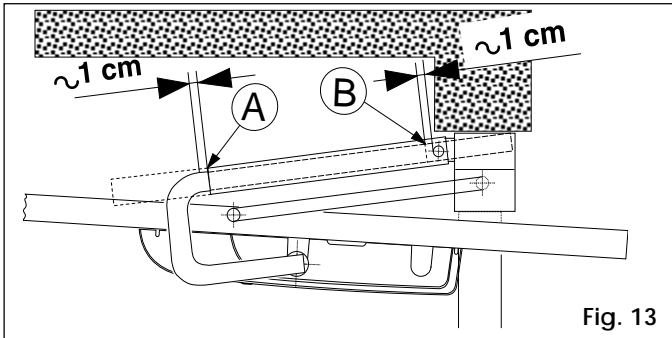

Fig. 13
• **curved arms (Fig. 13)**
Place the telescopic arm in position as shown in figure 13.